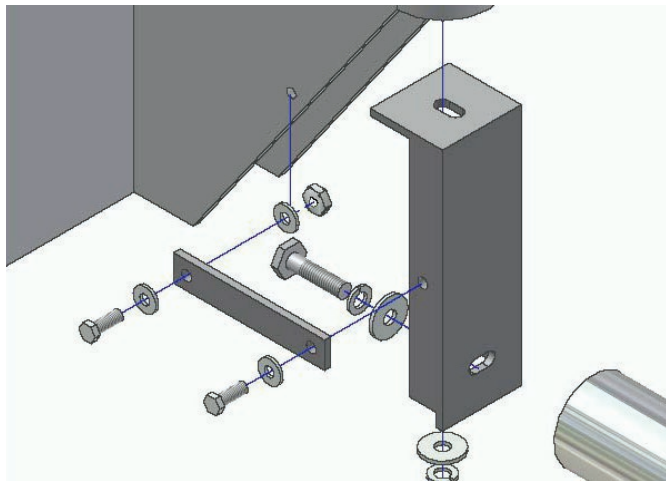

Figure 3 - Rear bracket
4. Fasten the mount brace to the rear mounting bracket and vehicle rear body mount using one M10 x 25mm bolt, two M10 flat washers and one M10 lock nut, for each side of mount brace, see figure 3. Snug the hardware, but do not fully tighten.